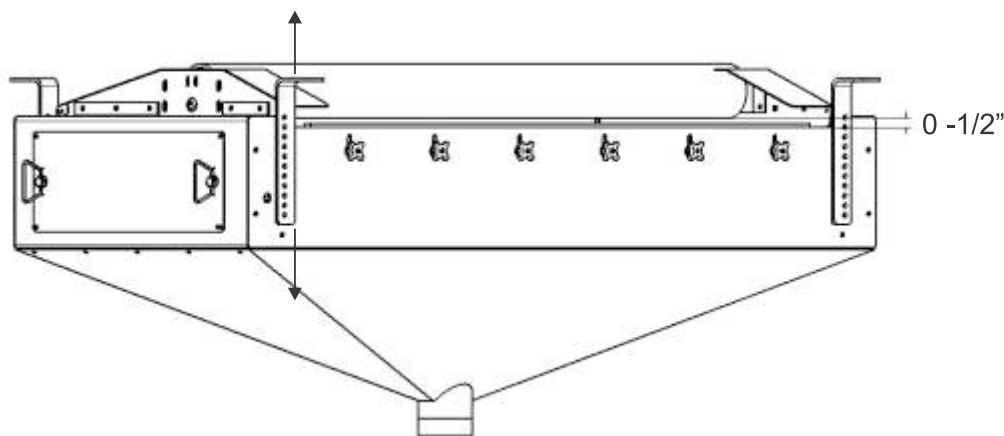

Figure 9. Wash Box Install Height
The Hangers (17) of the Wash Box mount to the frame / structure of the conveyor system. The Hangers have multiple height adjustment holes. The top inside edge of the Wash Box should be 0 – 1" from bottom of the belt. See Figure 9. In most applications it will be necessary to remove the Hold Down Roller for installation of the Wash Box. Once the Wash Box has been installed in the correct location, the Hold Down Roller can be reinstalled.